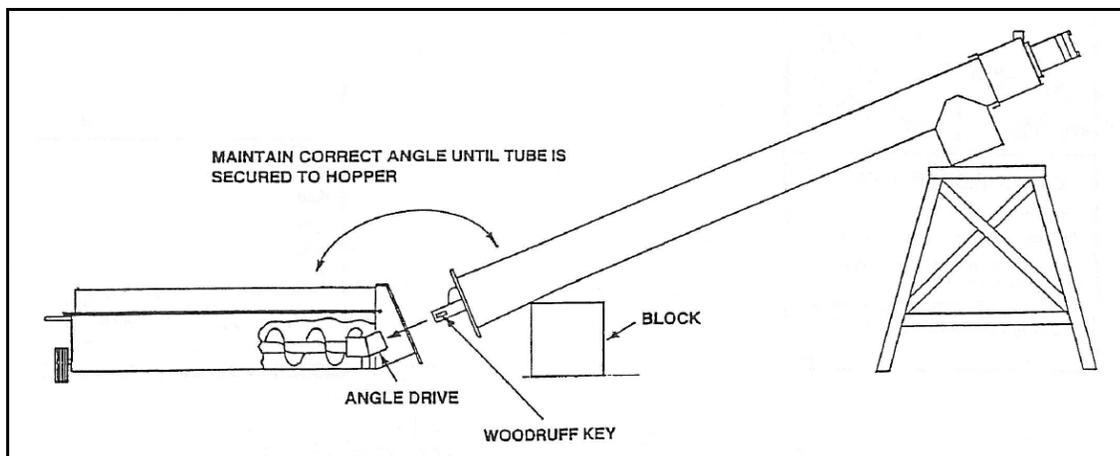

Figure 3.1
1. Remove access covers and clean paint and dirt from flightshaft end. Insert Woodruff key as shown in Figure 3.1.
2. Raise tube to correct angle1, then bring hopper and tube sections together, carefully sliding the flightshaft end with Woodruff key into the angle drive. Connect the hopper and tube section with eight 7/16" x 1" bolts (for the **8" & 10" models**) and locknuts. **13" Models** use 12 bolts and locknuts. See Figure 3.1. **Reinstall access covers.**